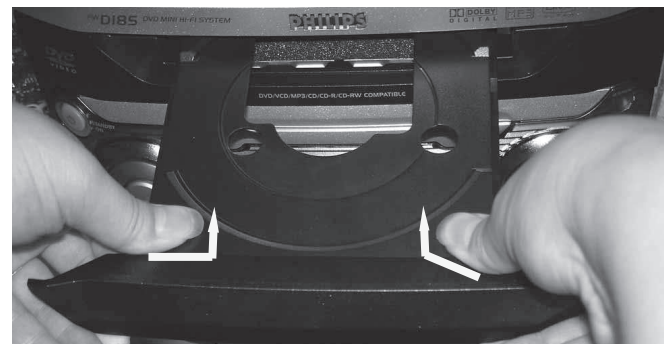

figure4
- 3) Remove the cover Tray as shown in figure 4.